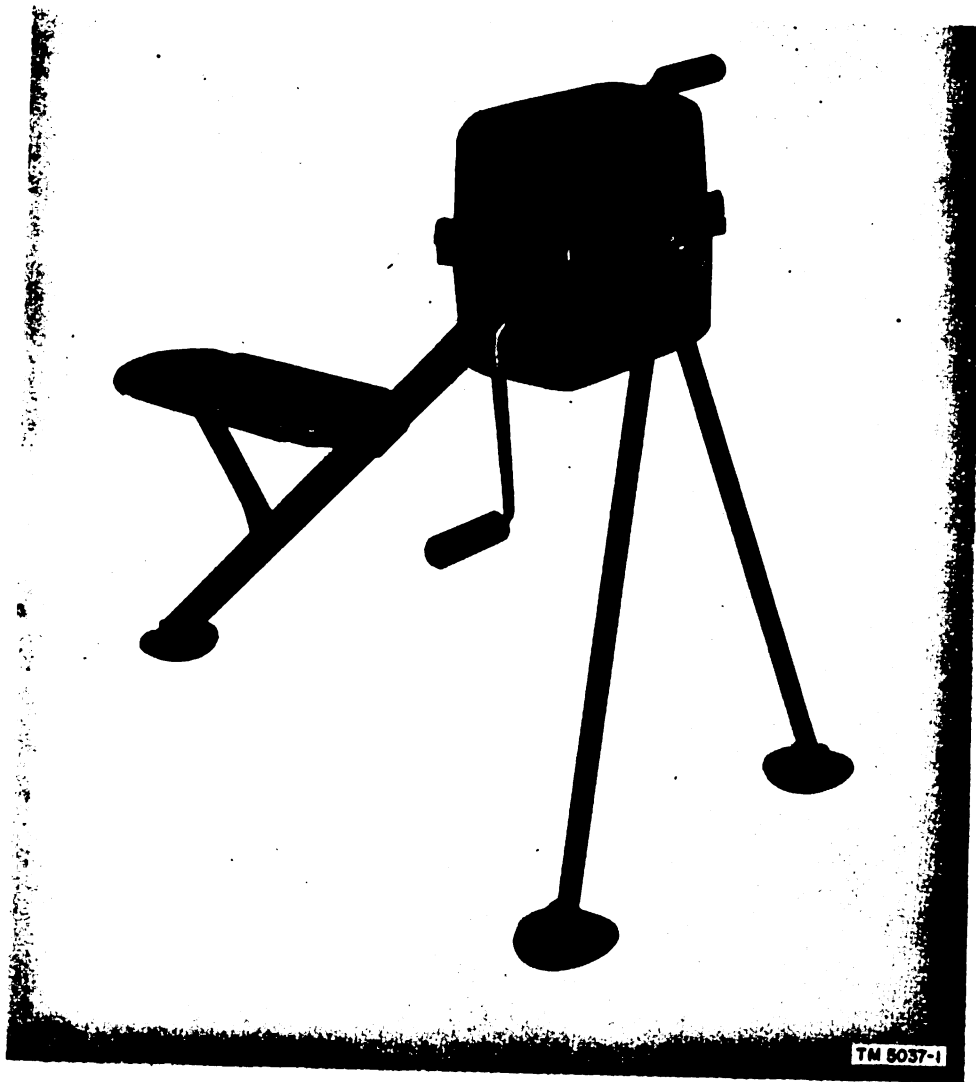

Figure 57. Generator G-8/GRC.
a. GENERATOR G-8/GRC (fig. 57). Generator G-8/GRC is a hand-powered power source. It consists of a generator unit with cranks and mounting legs (fig. 57). Complete details on the generator are published in a separate manual.